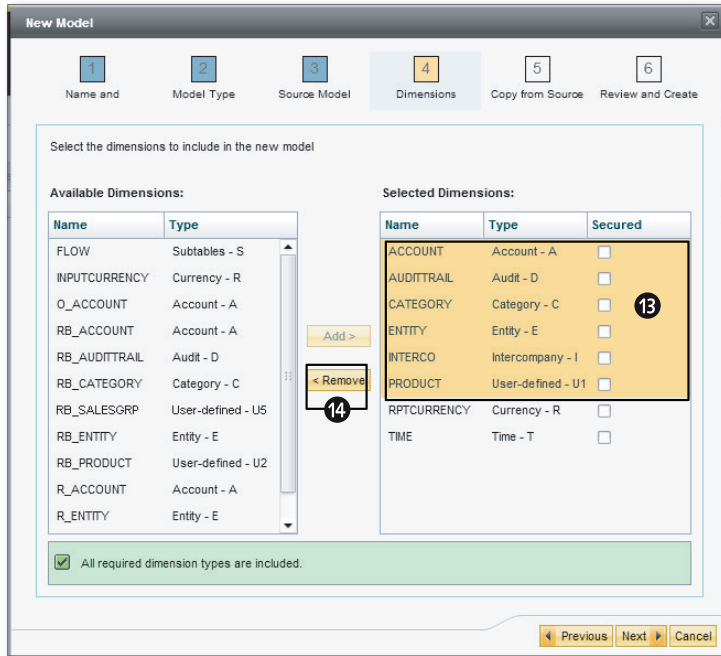

Figure 3.41 Creating a Model—Part E
6. In the next screen, use the arrows to remove and add dimensions to your model. Our model will not need the dimensions shown in Figure 3.41 (13). Click on the arrow as shown in Figure 3.41 (14) to remove them from the model.